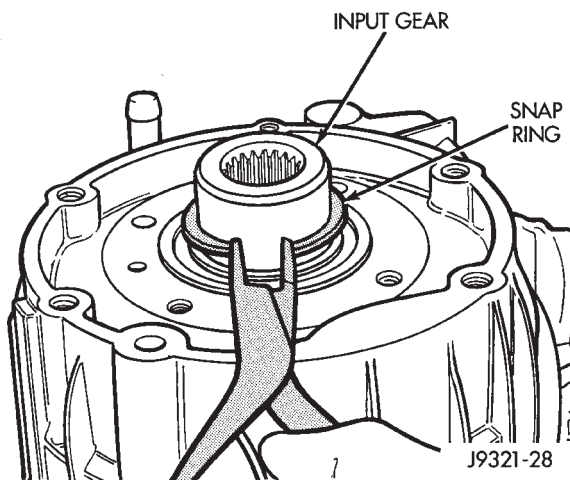

Fig. 58 Install Snap-Ring
(2) Install snap-ring to hold input/low range gear into front bearing (Fig. 58).